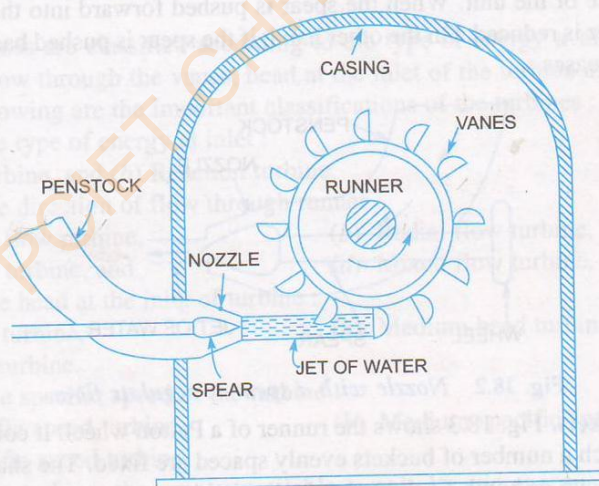

Fig. 18.4 Pelton turbine.
3. Casing. Fig. 18.4 shows a Pelton turbine with a casing. The function of the casing is to prevent the splashing of the water and to discharge water to tail race. It also acts as safeguard against accidents. It is made of cast iron or fabricated steel plates. The casing of the Pelton wheel does not perform any hydraulic function.